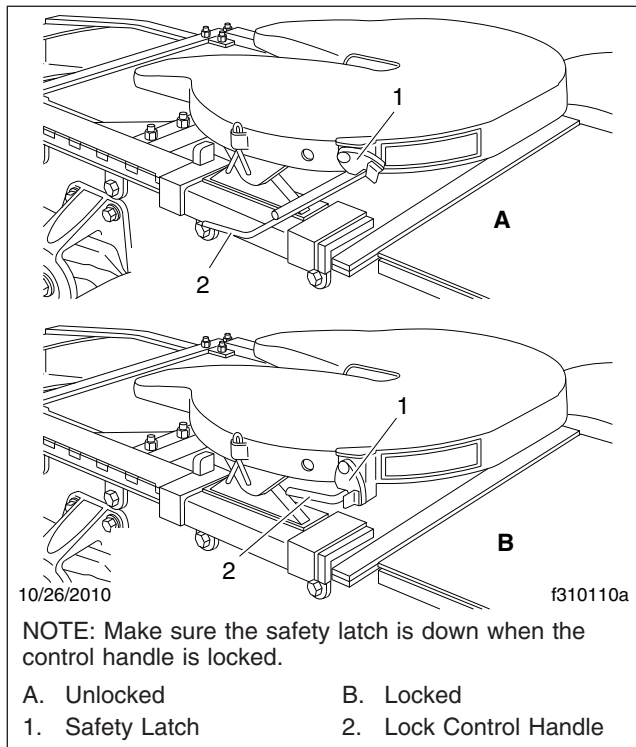
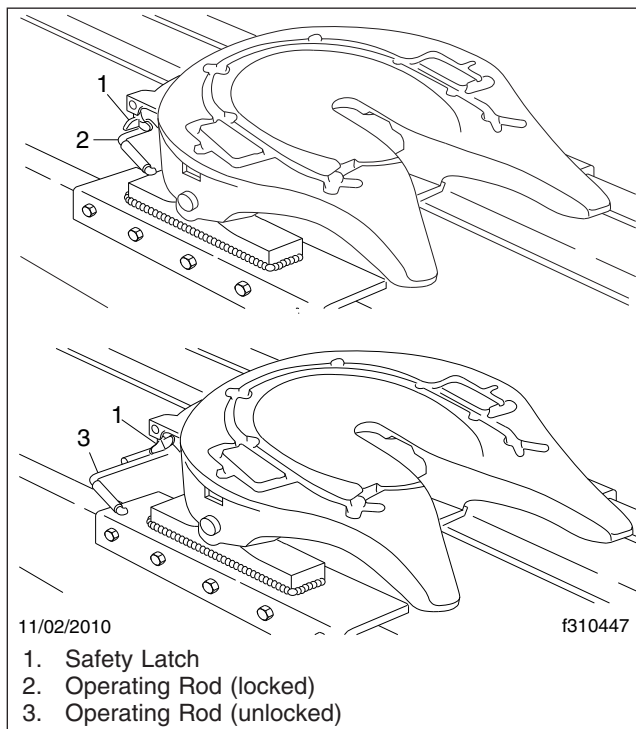

Fig. 18.2, Fontaine Locking Mechanism
Fig. 18.3, Holland Simplex SE Locking Mechanism
2. Ensure the fifth wheel jaw is fully open and the operating rod is in the unlocked position. See Fig. 18.2 or Fig. 18.3.
When lockup has occurred, the fifth wheel control handle moves to the locked position. Make sure that the safety latch is down over the lock control handle to hold the control handle in the locked position. (The safety latch will only rotate down if the operating rod is fully retracted in the locked position.) See Fig. 18.2 for Fontaine fifth wheels. See Fig. 18.3 for Holland fifth wheels.
6.1 **Fontaine:** Lift the safety latch and pull the lock control handle to the unlocked position. See Fig. 18.2.